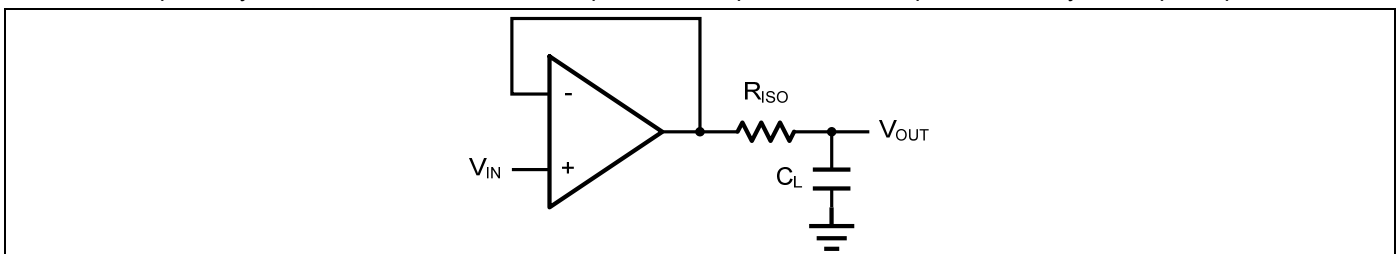
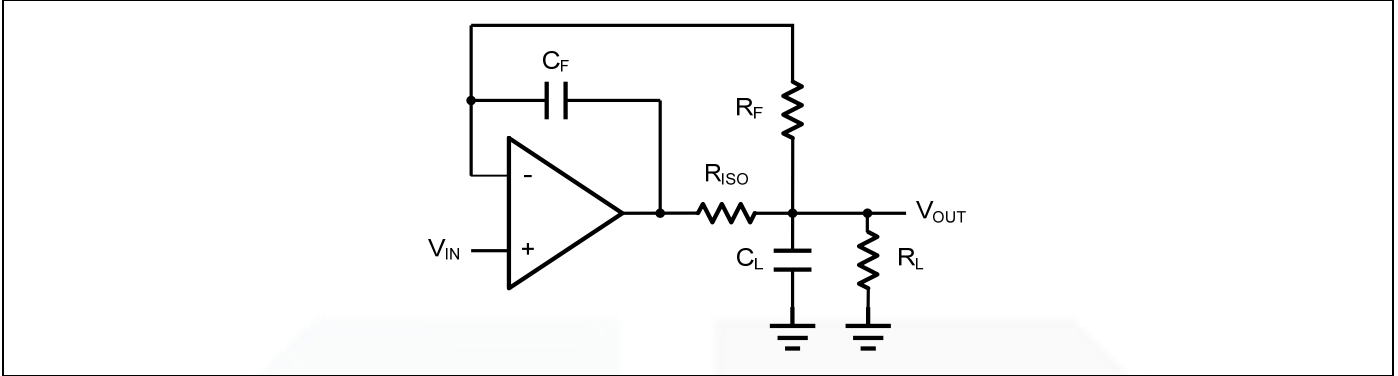

Figure 2. Indirectly Driving a Capacitive Load Using Isolation Resistor
Figure 3. Indirectly Driving a Capacitive Load with DC Accuracy
The GS854X family is optimized for bandwidth and speed, not for driving capacitive loads. Output capacitance will create a pole in the amplifier's feedback path, leading to excessive peaking and potential oscillation. If dealing with load capacitance is a requirement of the application, the two strategies to consider are (1) using a small resistor in series with the amplifier's output and the load capacitance and (2) reducing the bandwidth of the amplifier's feedback loop by increasing the overall noise gain. Figure 2. shows a unity gain follower using the series resistor strategy. The resistor isolates the output from the capacitance and, more importantly, creates a zero in the feedback path that compensates for the pole created by the output capacitance.
The circuit in Figure 3 is an improvement to the one in Figure 2. R_F provides the DC accuracy by feed-forward the V_{IN} to R_L . C_F